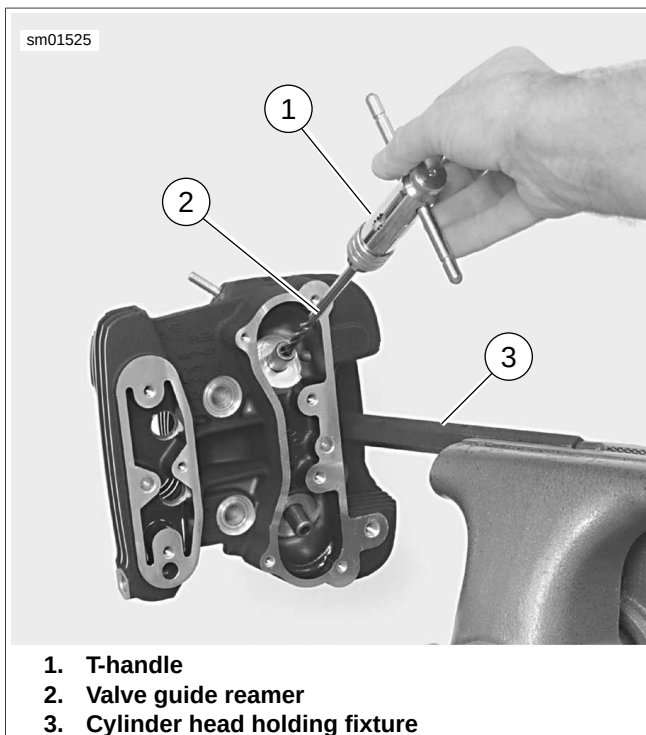

Figure 3-126. Reaming Valve Guide Bore
- a. See Figure 3-126. Thread 12 mm end of CYLINDER HEAD HOLDING FIXTURE (Part No. HD-39786) into cylinder head spark plug hole.